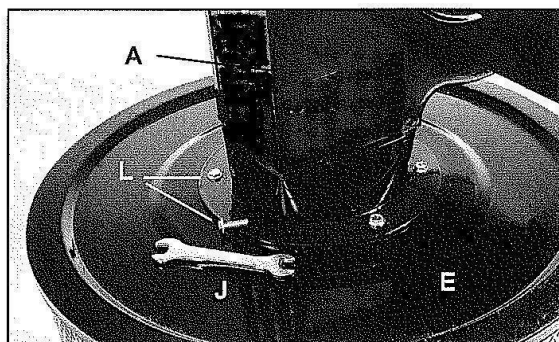

FIG. 2
- Wrench 10/12mm (J)
1. Position the Motor & Fan Assembly (A) onto the Filter Canister (E). Figure 2.
3. Align the 6 holes in the motor assembly's bottom flange with the 6 holes in the top of the canister and assemble the parts together with the 6 Bolts (L, #27). Figure 2.